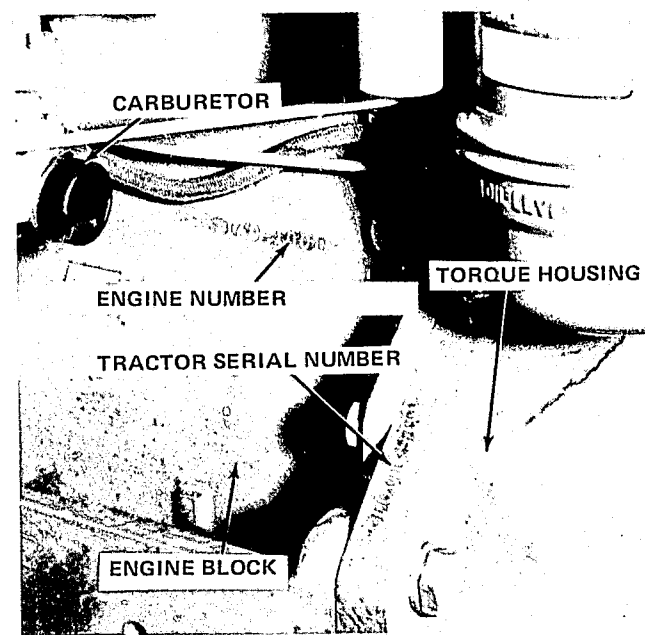

Figure 1
- The model number is also stamped into a metal plate which is riveted to the left inside fender. (See Figure 1)